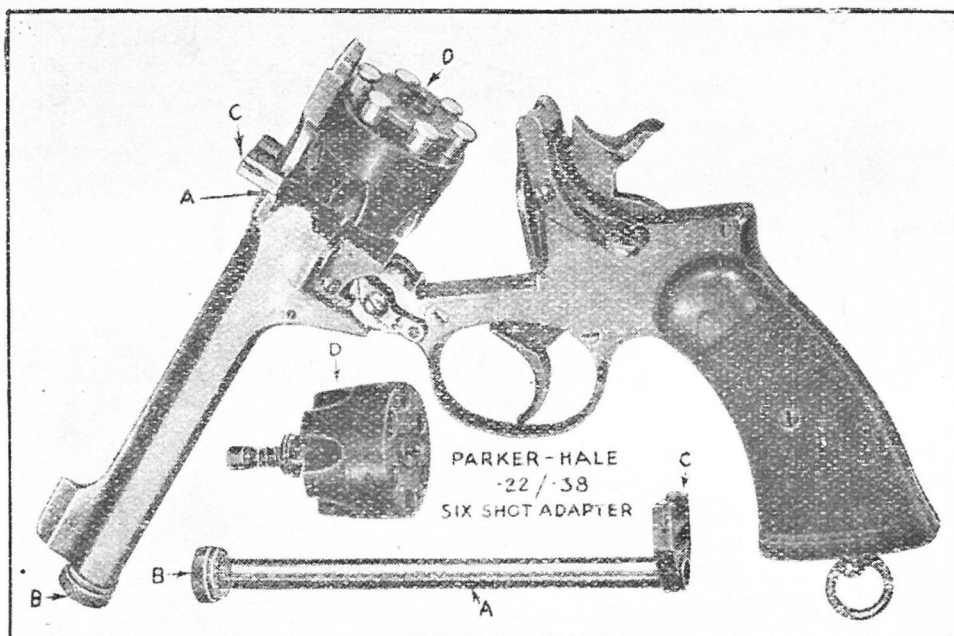

Figure 23. Parker-Hale .22/.38 six-shot adaptor for the Enfield service revolver.
23. Parker-Hale .22/.38 Six-Shot Adaptor for the .38 Cal. Enfield Service Revolver (figure 23)